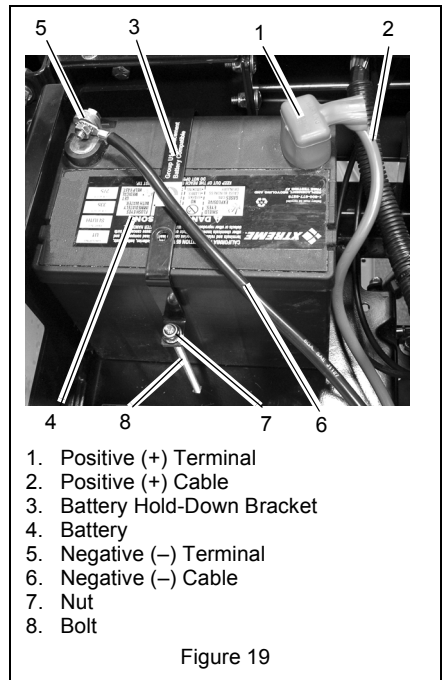

Figure 19
- Set battery inside the frame, underneath the seat with terminals positioned as shown (Figure 19).